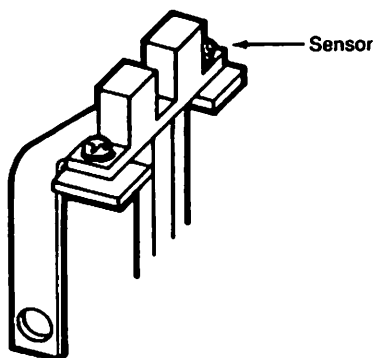

Figure 8 Home position sensor
- With a brush, remove any paper dust or ribbon particles on or around the home position sensor (located under the carrier cover on the lower left side of the printer). Refer to Figure 8.